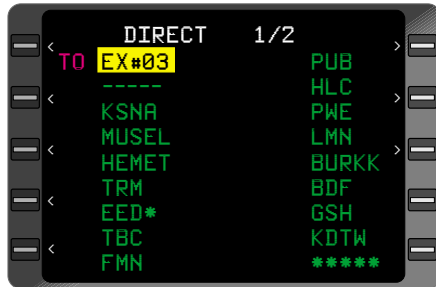

Figure 3-195
1. **➔** Key - DEPRESS. The display will show Direct To the EX# waypoint with the waypoints of the Active Flight Plan listed below. (Figure 3-195).